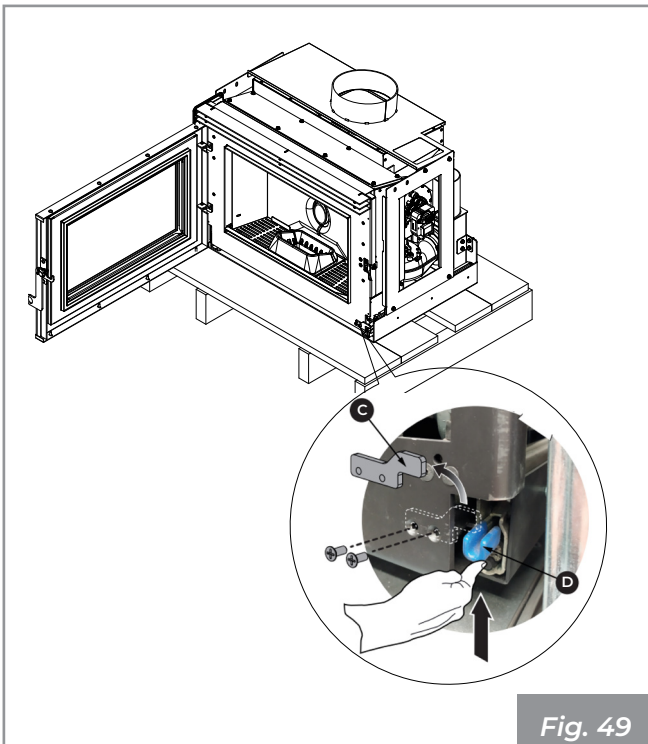

Fig. 49
- Remove the safety bracket, by loosening the two retaining screws.( **Fig. 49** )